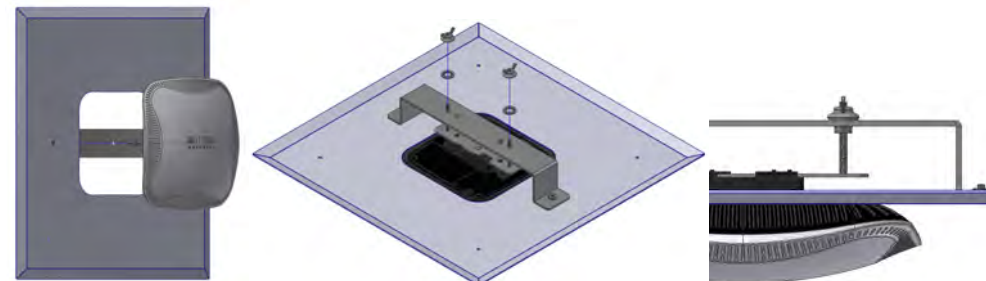

Figure 3 - T-Bar Bracket Install
**Step 4** – Align the threaded studs to the two outer holes in the bracket attached to the Trim. Once the access point is snug in the hole, place the lock washer and wing nut onto the threaded rod. Tighten wing nuts until they are snug. With your fingers, tighten the hex nuts on the underside of the bracket then re-tighten the wing nuts until they no longer move freely (Figure 3).
**Step 7** – Insert the Ethernet cable through the conduit connector previously installed in the enclosure. Insert the box into the opening in the ceiling/wall and using either a hand held screw driver or an electric screw driver set to the lowest torque setting, rotate the screws located at the four corners (#1 in Figure 5). Rotating the screws will cause the dogleg clip to rotate into position (#2 in Figure 3) and travel along the length of the screw, tightening the clip against the drywall. Caution, do not over tighten the screws as it may damage the flange of the enclosure. See OSHPD approved drawing where applicable.